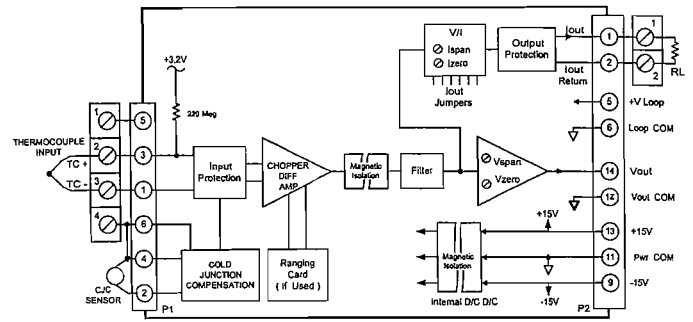

Figure 2.1.10.1 3B37 Functional Block Diagram
Figure 2.1.10.1 shows a functional diagram for the model 3B37. Input protection of up to 220V is provided for the input circuitry. Cold Junction Compensation with an initial accuracy of ±0.5°C is performed in each unit with the external sensor provided on all channels of the 3B Series backplane. The signal is amplified and filtered to give the high level voltage outputs. Chopper based amplification is used to assure low drift and excellent long term stability. Transformer coupling is used to achieve stable galvanic isolation between input and output. Both the voltage and current outputs can be independently adjusted over a ±5% span range for zero and span with the front panel accessible potentiometers. The current output, which has 130V output protection, interfaces with user equipment through screw terminal connections.
1. Make connections as shown in Figure 2.1.10.1 with  $R_L = 250\Omega$ . Use a precision millivolt source.
Gain  $G$  is a ratio of the change of output to the input change that produced it. If there is to be no zero suppression, (i.e., 0°C = 0mV = 0V output) then  $R_2$  should be a jumper and  $R_3$  should be left open. Refer to the cold junction compensation section for the value for  $R_4$ . These resistors should be installed as indicated in Figure 2.1.10.2.